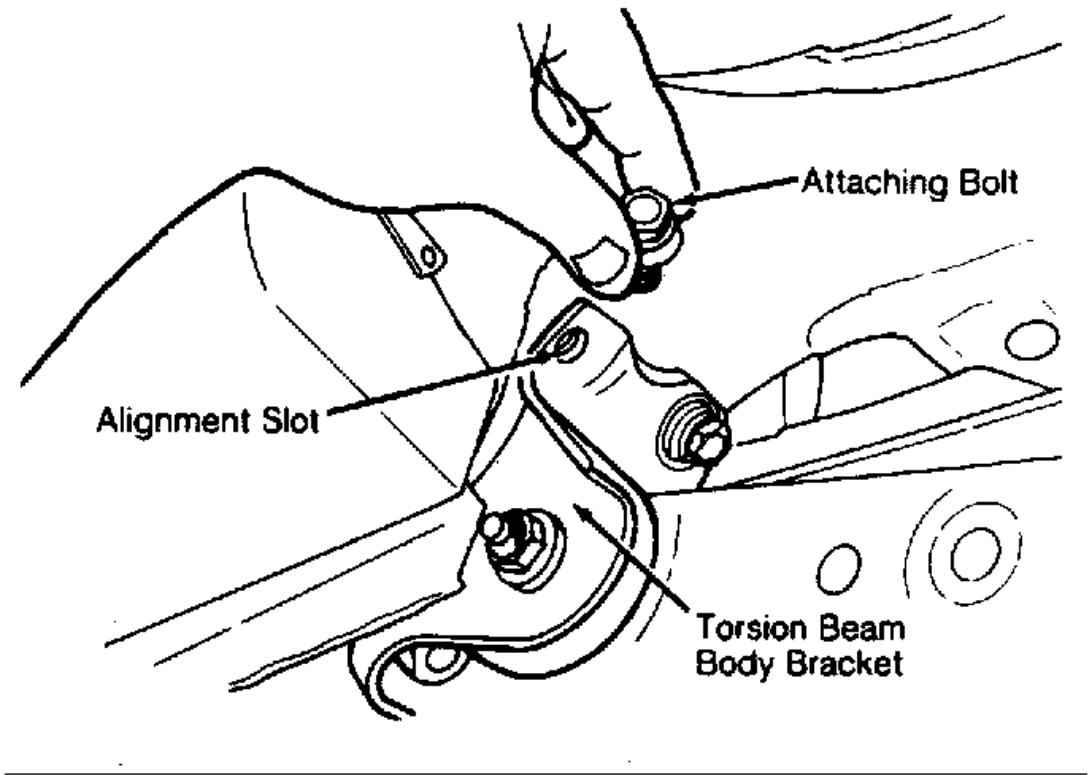

Fig. 5: Removing Torsion Beam Pivot Bolt
3. Remove torsion beam pivot bolts from body brackets. See Fig. 5 . Do not loosen or remove torsion beam body brackets if they are not to be replaced. Remove torsion beam.